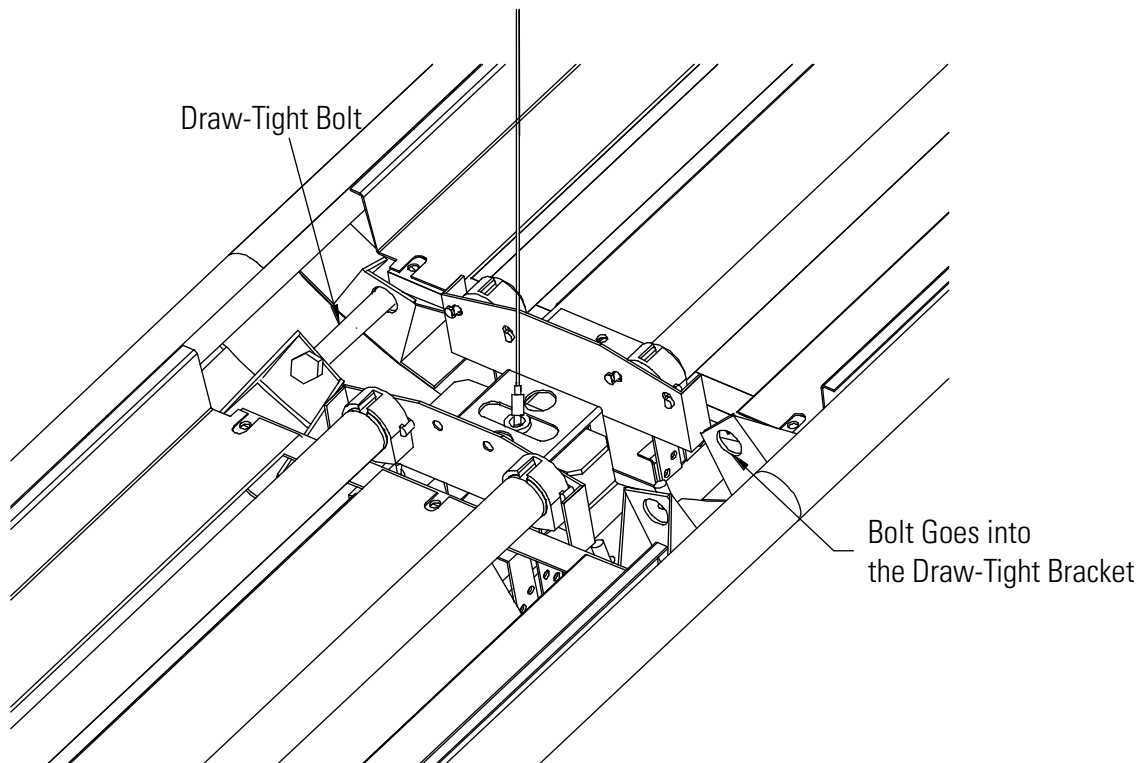

Figure 3
2. Insert opposite end of the fixture to the starter fixture from Phase 1. Then tighten the Draw-Tight bolt, using a 1/4" socket, to pull the two fixtures together. (Fig. 3)